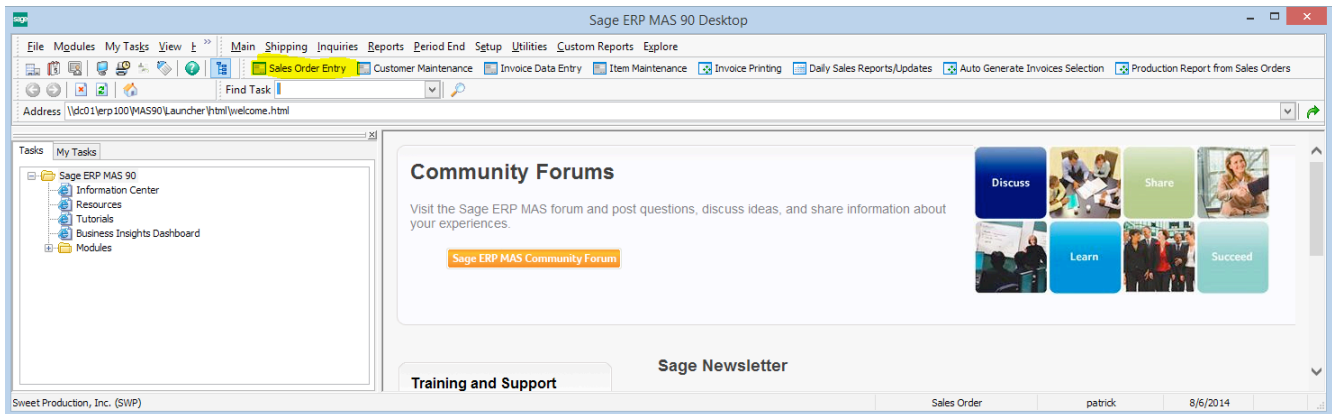

Figure 2.1
**Step Two:** Open the form Sales Order Entry (see Figure 2.1)